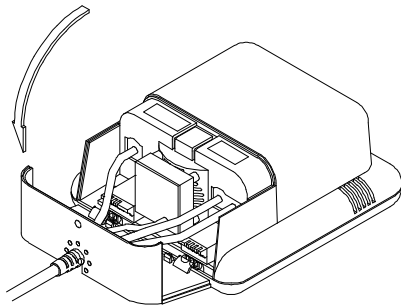

Figure 2.4
- Place the scanner as illustrated in figure 2.4 and rotate the scanner around the cover. Make sure the connectors and cables are placed properly as illustrated in the figures to allow easy attachment of the scanner to the back cover. Press the scanner until a “click” is heard.